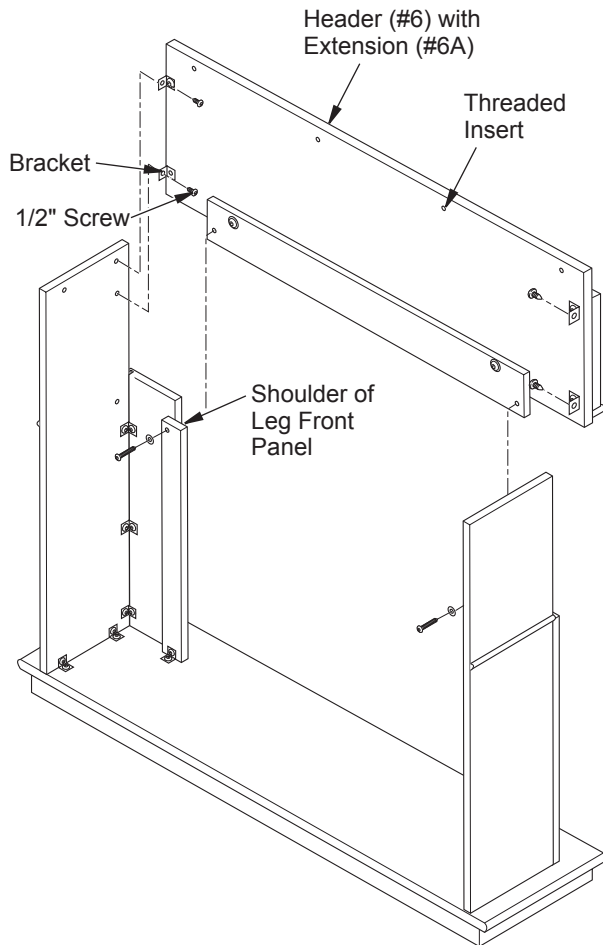

Figure 4 - Installing Header Assembly
- Place header assembly into position on top of leg assemblies with arrow pointing up. Bottom of header will slide in behind upper portion of leg front panels and rest on shoulders (see Figure 4). Align bracket holes with threaded inserts in leg assemblies. Using four 1/2" screws through brackets, attach header to leg assemblies. Leave screws loose.